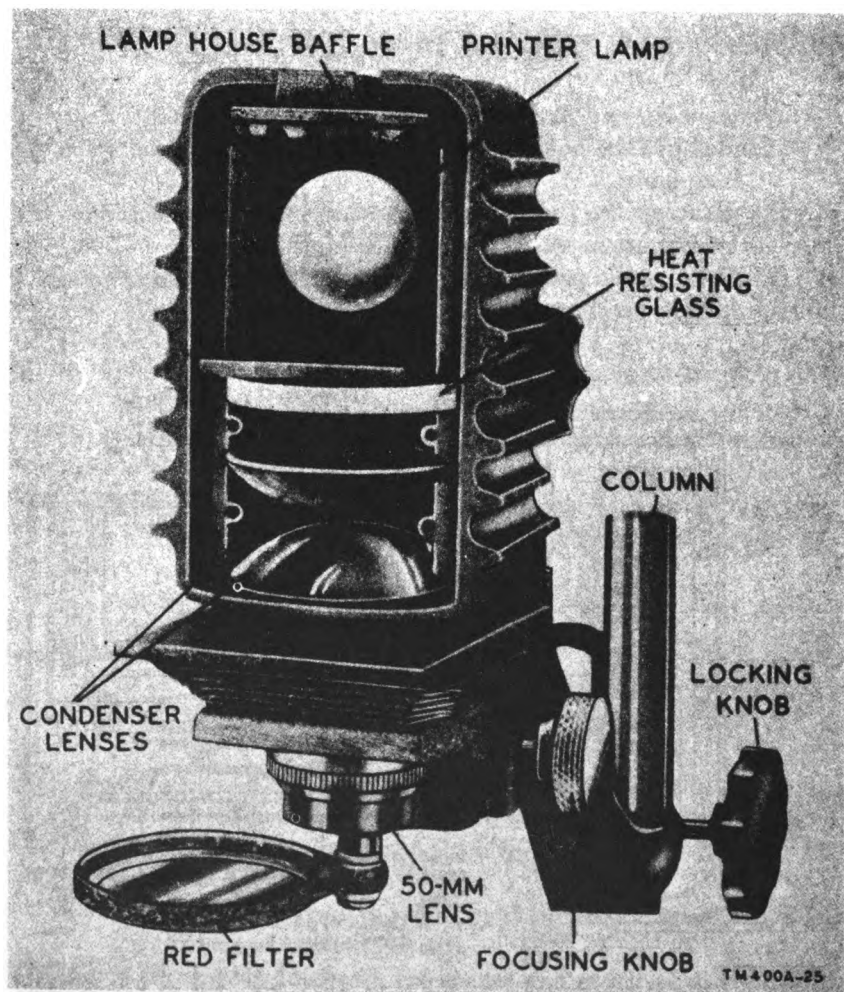

Figure 25. Lamphouse assembly, front plate removed.
- (1) To remove the safelight, rotate the lamp in a counterclockwise direction. Be sure to hold the lamp during this procedure.
- (2) Grasp the top end of the safelight and unscrew the filter shell to remove it.
- (3) Unscrew and lift out the 7-watt lamp.
- (4) To replace the safelight lamp, reverse the disassembly procedure ((1) through (3) above).
41. Photographic Projection Printer EN-11 (1) (figs. 25 and 26)